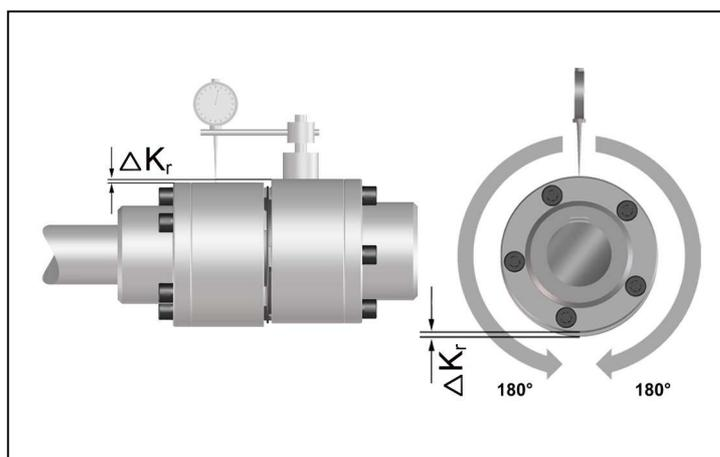

Fig. 8
- Measure a complete rotation (360°). Determine in this case the greatest deviation  $\Delta K_{r1}$  as well as the smallest deviation  $\Delta K_{r2}$  (Figure 8).